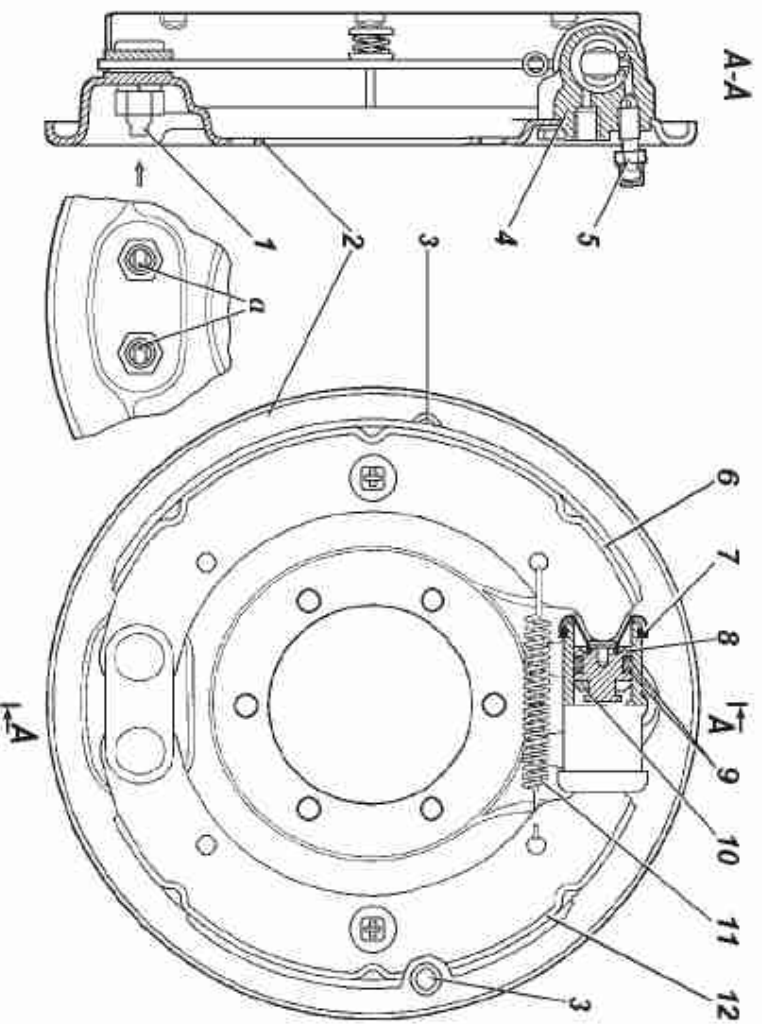

Fig. 9.35. Rear wheel brake:
**Rear drum brakes (Fig. 9.35).** Remove brake drums periodically and clean the brake parts from dust and dirt. The frequency depends on vehicle operation conditions. Clean the drums more frequently in the summer and when driving on dirty roads, and less frequently in the winter.